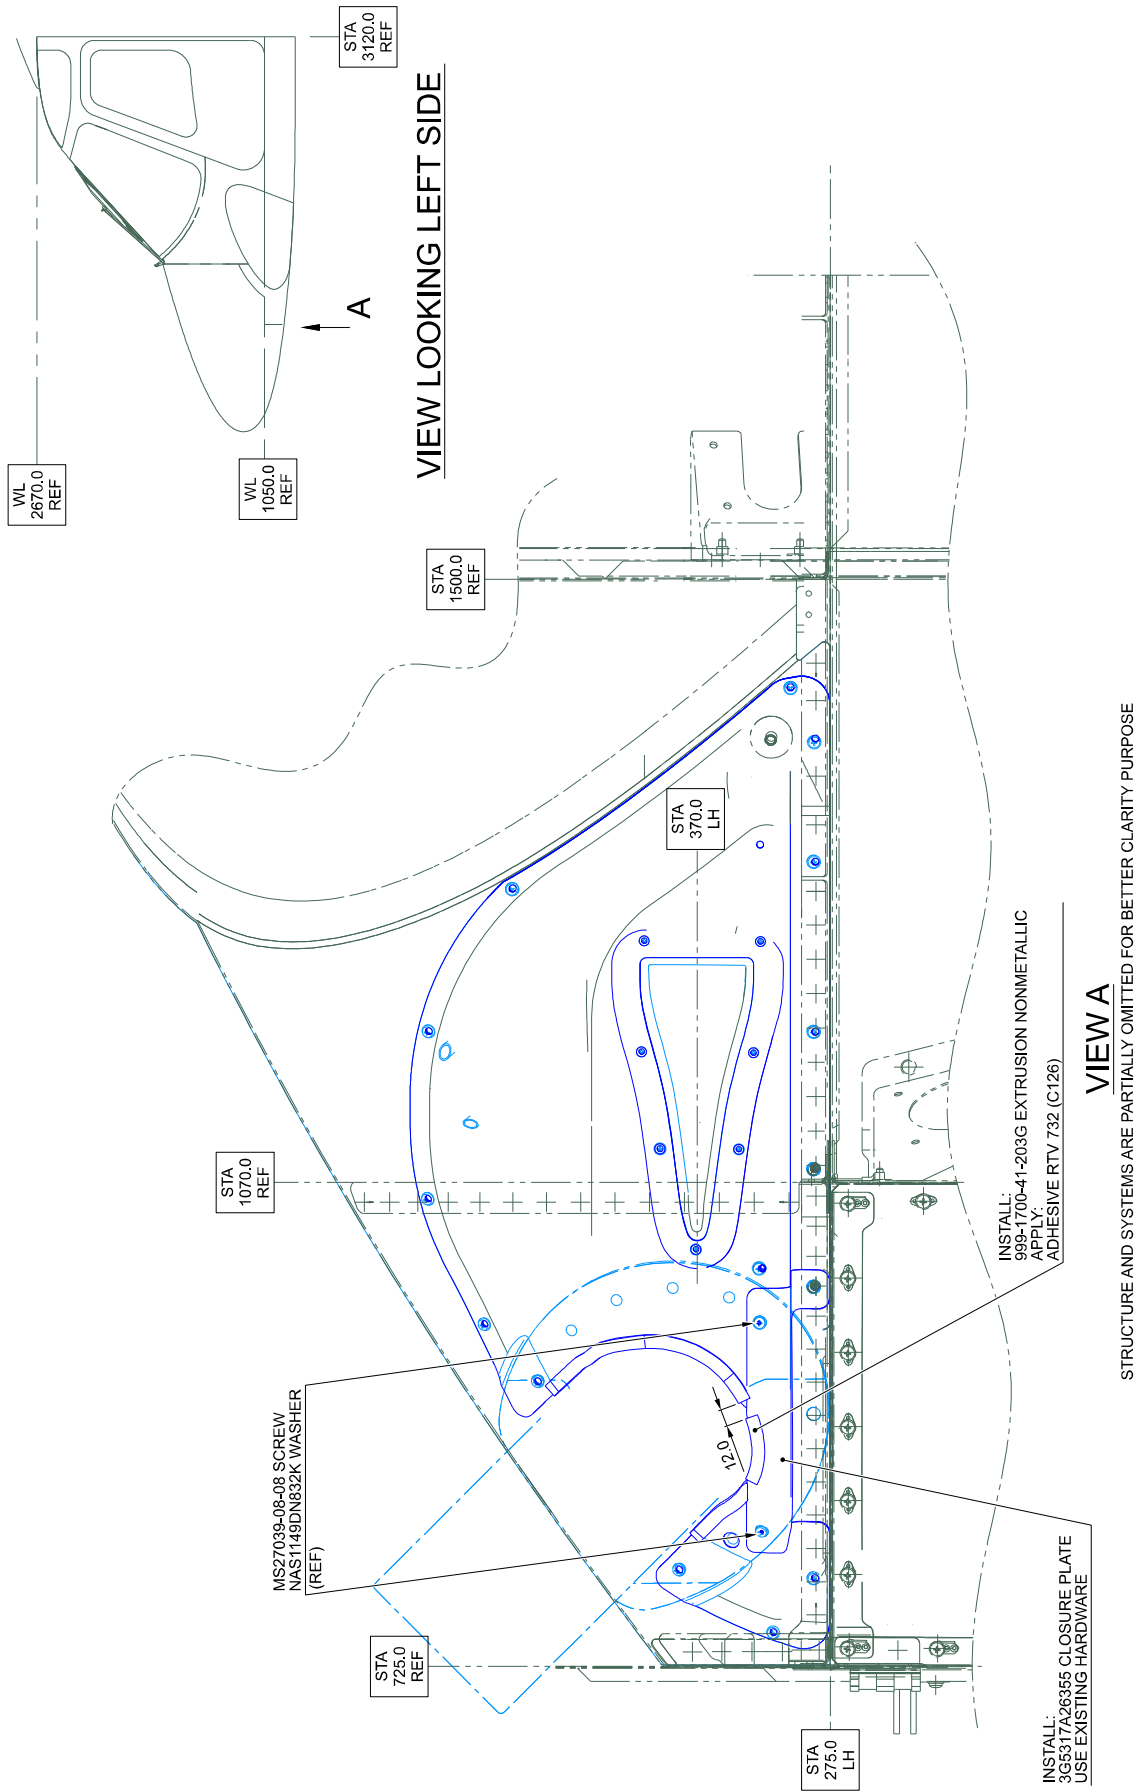

Figure 6
13. With reference to Figure 6, perform the closure plate variant for ASE P/N 3G5311A58811 as described in the following procedure:
- 13.1 With reference to Figure 6 View A, install the extrusion non-metallic P/N 999-1700-41-203G (length 55.0 mm) on the edge of the closure plate P/N 3G5317A26355 in accordance with the dimension shown by means of the adhesive RTV 732 (C126).
- 13.2 With reference to Figure 6 View A, install the closure plate P/N 3G5317A26355 on the FWD and AFT cable covers assy by means of existing hardware previously